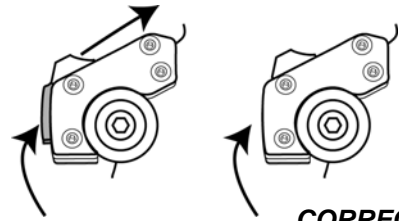

Fig. 2
3. Install the Mounting plate assemblies ② and ③ onto the fairing, using the bolts that are pre-assembled on the Mounting plate assemblies. The Santoprene grommets should be inserted through the holes in the fairing so that the flat round part of the grommet lies flat on each side of the plastic. Tabs point in towards the headlight. (Fig. 2)
4. Slip the mounting plates and fairing onto the fork clamps, (Fig. 3) while guiding the bezel over the headlight (Fig. 2) and under the brow. Secure the left and right side locking mechanism